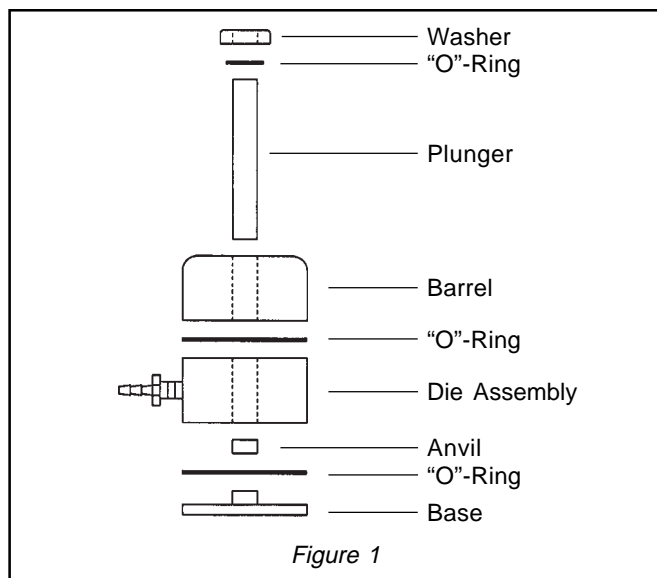

Figure 1
The proper assembly for the components of the KBR Die, during the pressing procedure, is illustrated in Fig. 1. *It should be noted that the anvil must be positioned with the polished side up.*
3. Insert barrel into die, completing assembly as shown in Fig. 1. *Gently*, push plunger down to surface of powder for final leveling. Plunger should then be withdrawn approximately 1mm to 2mm.